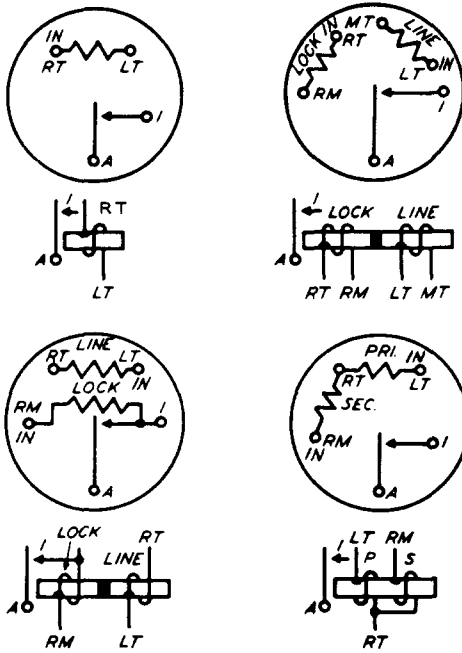

Fig. 27 – Winding and Spring Terminal Arrangement as Viewed From the Rear (terminal side) — 89-, 101-, 105-, 108-, 118-, and 172-Type Relays
2.41 The winding and contact terminal numbering is the same as covered in 2.37. These relays are, however, always mounted as shown in Fig. 27 through 30.